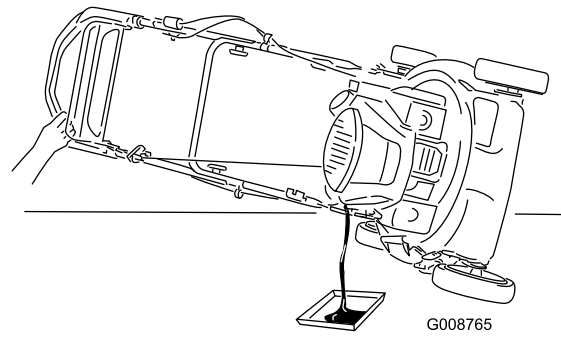

Figure 16
3. Tip the mower onto its side, with the air filter up, to drain the used oil out through the oil fill tube (Figure 16).